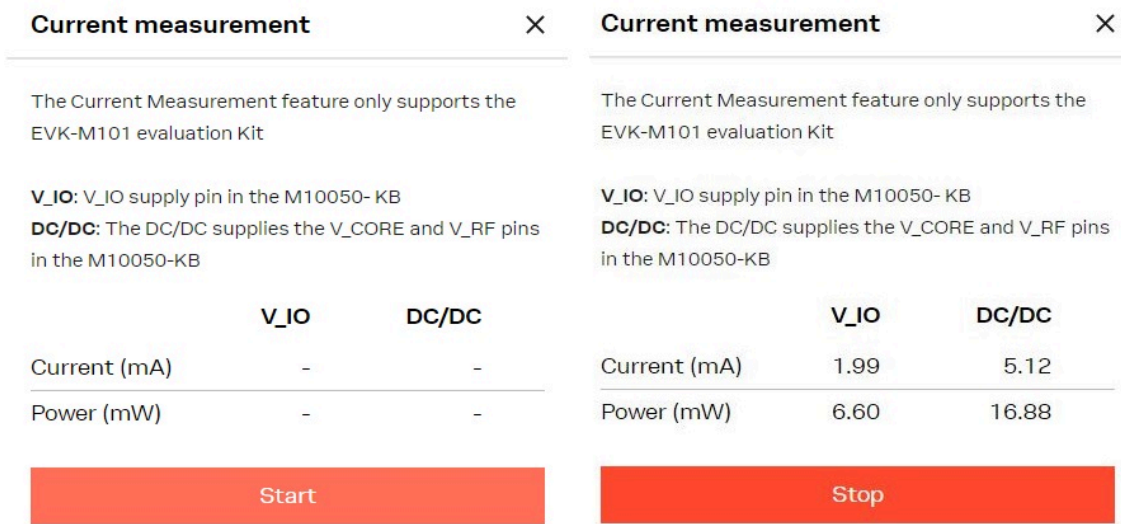

Figure 5: u-center 2 current measurement example
- To start the current measurement, press the **Start** button as depicted on the left-hand side of Figure 5. The **Current measurement** window continuously updates the V_IO and DC-DC converter input current values. To finish the continuous current measurement, press the **Stop** button.